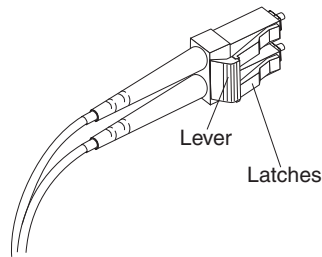
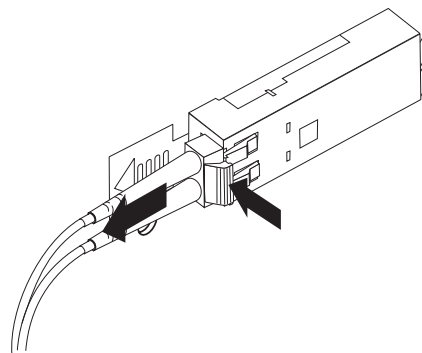

Figure 34. LC-LC fibre channel cable lever and latches
Figure 35. Removing the LC-LC fibre channel cable
1. On the end of the LC-LC cable that connects into the SFP module or host bus adapter, press down and hold the lever to release the latches, as shown in Figure 34. Carefully pull on the connector to remove the cable from the SFP module, as shown in Figure 35.